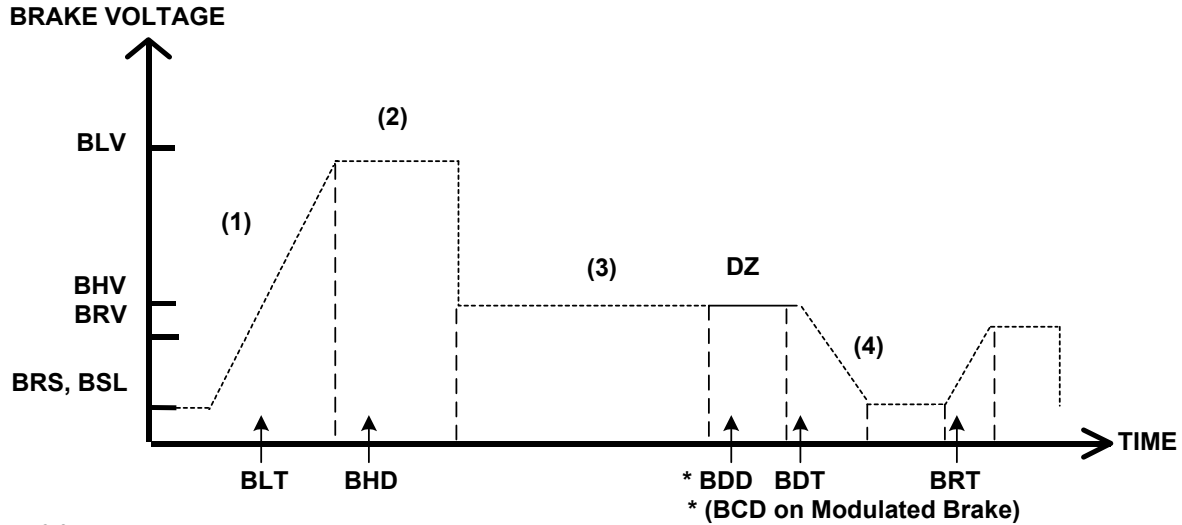

Figure 6-3
5. Place the car on Machine Room INSP. Place the elevator below the floor. Turn to AUTO. Adjust the parameters **BRT**, **BRV** and **RVE** to allow the elevator to re-level into the floor without sagging. See Figure 6-3 for full brake parameter details.